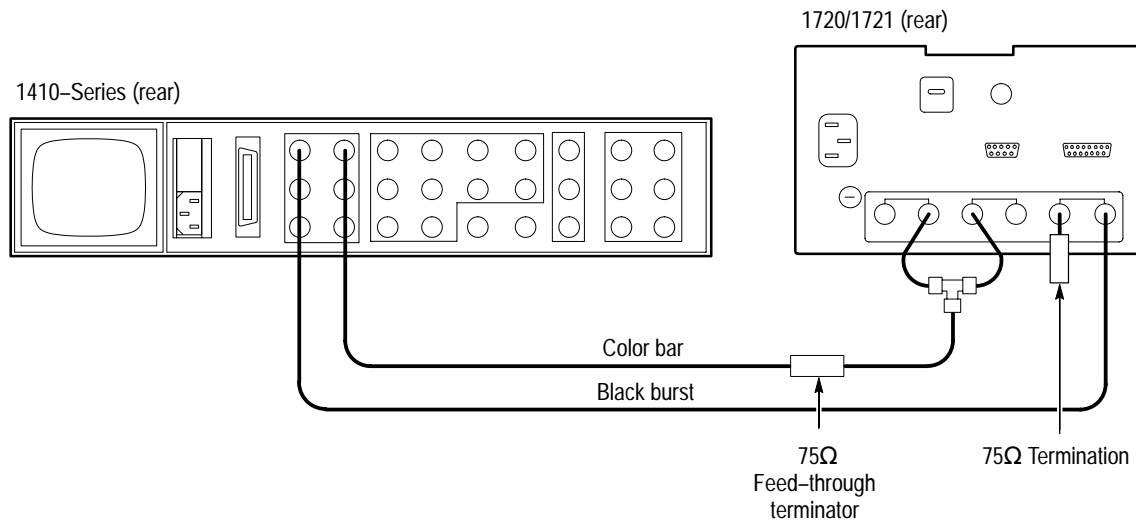

Figure 5-4: Signal connection for checking CH-A/CH-B phase matching.
- a. See Figure 5-4. Connect the color bar through a 75Ω feed-through terminator and a dual input coupler to the CH-A INPUT and CH-B. Connect the black burst signal to the EXT REF loop-through and terminate in 75Ω . Select EXT REF. Alternately select INPUT A and B in the VECT MODE.